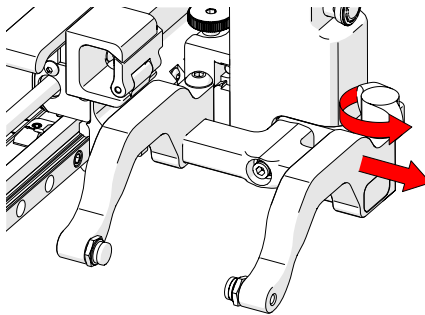

Fig. 36 - Remove outer arm
3. Loosen the probe holder adjustment knob and remove the outer probe holder arm (Fig. 36).